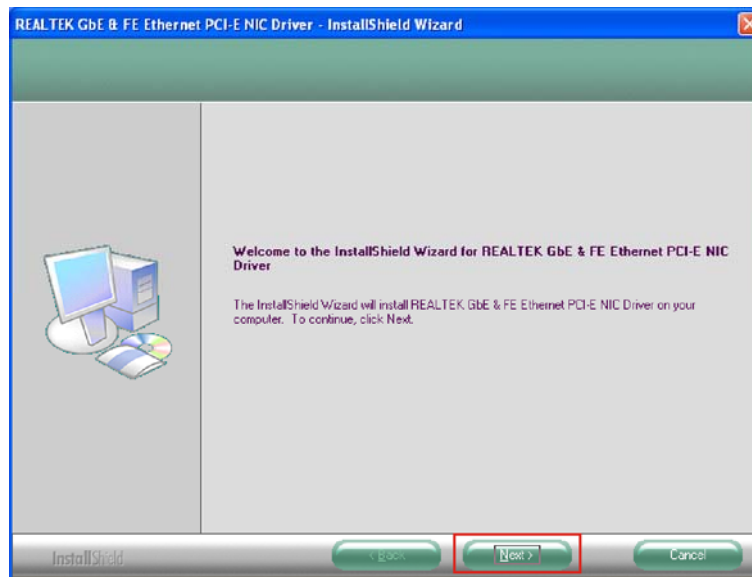

Figure 6-16: LAN Driver Welcome Screen
Step 3: The **Welcome** screen in Figure 6-16 appears.